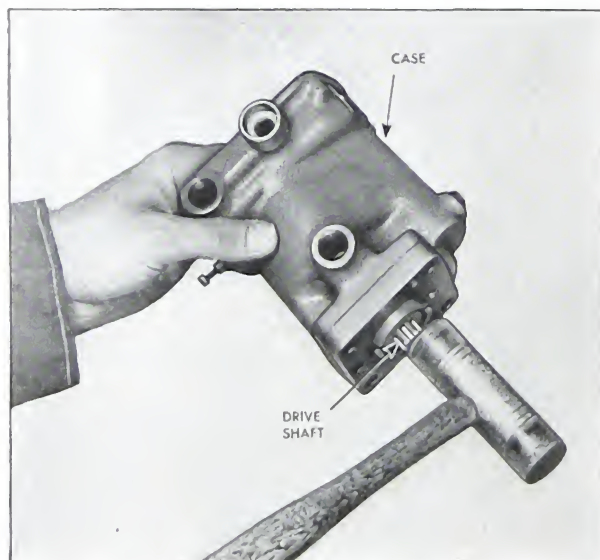

Fig. 5-129. Free drive shaft "a"
9. Tap end of drive shaft tightly with plastic hammer until ballhead and shaft turns freely with a minimum of end play. See Fig. 5-129.